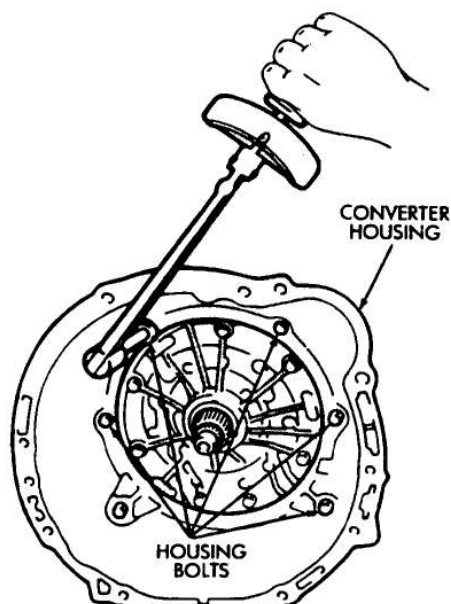
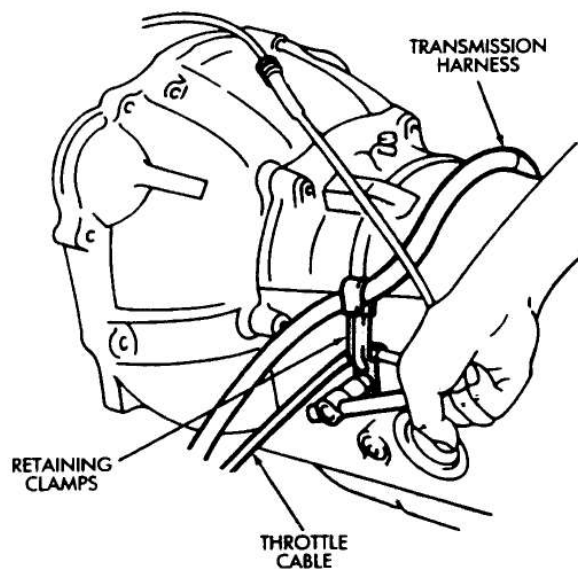
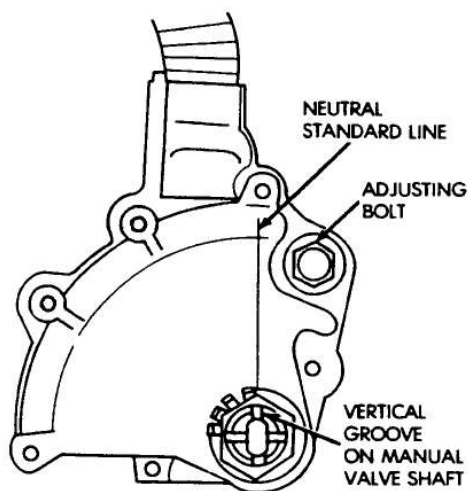

Fig. 68 Installing Converter Housing
Fig. 70 Installing Cable/Harness Clamps
Fig. 69 Neutral Switch Installation/Adjustment
(92) Install converter housing (Fig. 68). Tighten 12 mm diameter housing bolts to 57 N·m (42 ft-lbs) torque. Tighten 10 mm diameter housing bolts to 34 N·m (25 ft-lbs) torque.
(93) Install transmission shift control lever on manual valve shaft. Do not install the lever attaching nut at this time.
(94) Move shift control lever all the way to rear. Then move it two detent positions forward.
(95) Mount neutral safety switch on manual valve shaft and tighten switch adjusting bolt just enough to keep switch from moving (Fig. 69).
(96) Install neutral switch tabbed washer and retaining nut (Fig. 69). Tighten nut to 6.9 N·m (61 in-lbs) torque, but do not bend any of the washer tabs against the nut at this time.
(97) Align neutral switch standard line with groove or flat on manual shaft (Fig. 69).
(98) Tighten neutral switch adjusting bolt to 13 N·m (9 ft-lbs) torque.
(99) Install shift control lever on manual valve shaft. Tighten lever attaching nut to 16 N·m (12 ft-lbs) torque.
(100) Install retaining clamp for wire harness and throttle cable (Fig. 70).